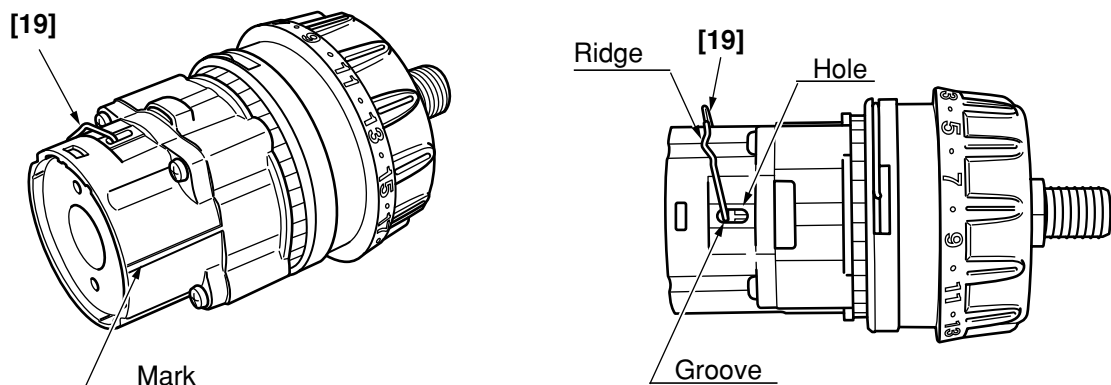

Fig. 13
- With the ridge at the Shift Arm [19] facing the Motor [28] side, first install them on the unmarked side of the assembly reassembled in step (g). Then insert the projections on the Shift Arm [19] into the holes in the Rear Case [17] and make sure that the projections are fitted into the grooves in the Slide Ring Gear [20] mounted within the Rear Case [17]. (See Fig. 13.)